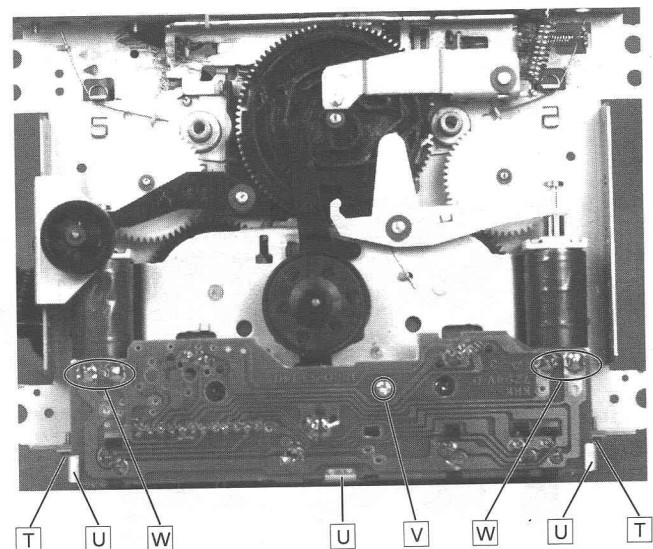

Fig. 16
10. Removing the drive mechanism circuit board, Fig. 16